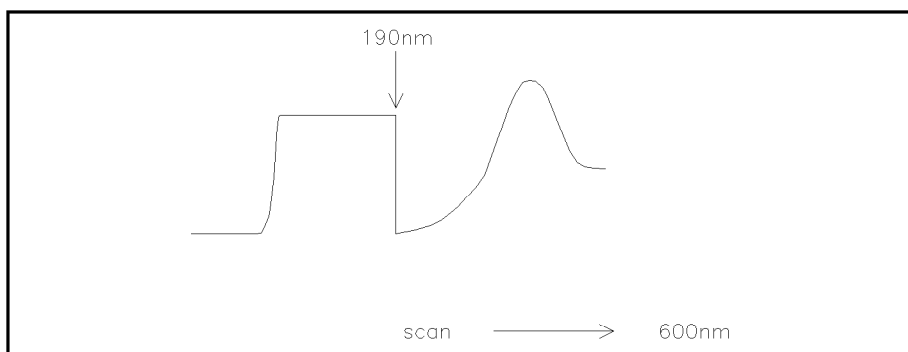

Figure 1-4. Scanning First Peak Over Full Wavelength Range
5. Press and hold down the **(▲)** key to increase the excitation wavelength. As you increase the excitation wavelength (EX) the intensity of the fluorescence (F) increases or decreases. The plot will be similar to Figure 1-4.